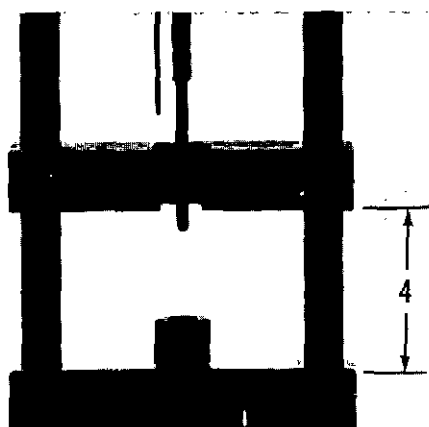

Fig. 4-3, (F60301). Adjust the distance between the bars
- b. Adjust the horizontal support bar so that it is 4 inches [102 mm] above the top surface of the bottom bar, Fig. 4-3.